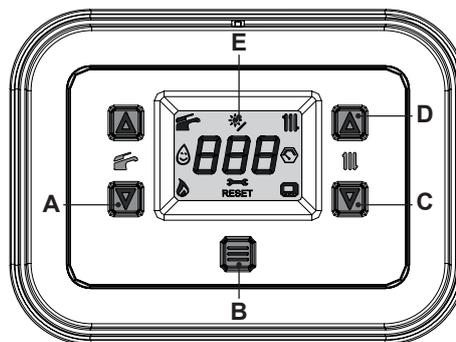

Figure 4.3
- 1 To enter in the parameters setting mode press at the same time the 2 keys "A" and "C" (Figure 4.3) and hold in for 5 second until the display shows Figure 4.4.
- 2 Scroll the various menus using keys "A" or "C" (Figure 4.3) until the LCD display indicates the letters **PAr** (Figure 4.5).
- 3 To enter the selected menu press key "B" (Figure 4.3) for 1 second.
- 4 Scroll the various menus using keys "A" or "C" (Figure 4.3) until the LCD display indicates the letters **P34** until the LCD display indicates the value of parameter 34 (e.g. **12** default value) Figure 4.6.
- 5 To enter the selected parameter press key "B" (Figure 4.3) for 1 second. The display will show the following (Figure 4.7).
- 7 By pressing key "B" (Figure 4.3) confirmation of the inserted value is obtained. The display will show the following (Figure 4.8) for 5 seconds, then move up to the next level.
- press the "A" and "C" keys simultaneously for 5 seconds (Figure 4.3) (return to previous level).